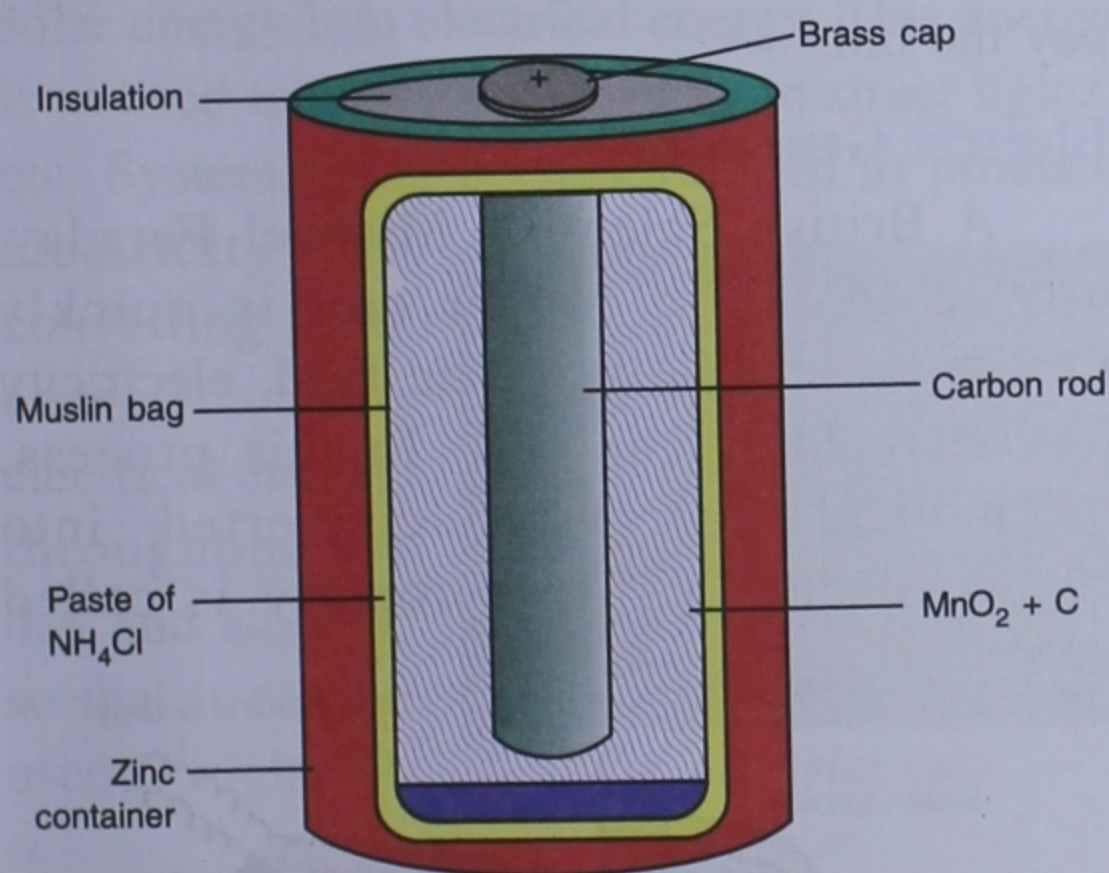

Fig. 8.2 A dry cell
A dry cell essentially consists of a zinc container, its base acting as the negative electrode. It has a carbon rod placed at the centre with a brass cap. The carbon rod acts as the positive electrode and is surrounded by a mixture of manganese dioxide ( $\text{MnO}_2$ ) and charcoal (C) in a muslin bag. The electrolyte used is a moist paste of ammonium chloride ( $\text{NH}_4\text{Cl}$ ), plaster of Paris, flour, etc. The outer body (except for the base) of a zinc container is insulated with a thick cardboard or plastic material (Fig. 8.2).